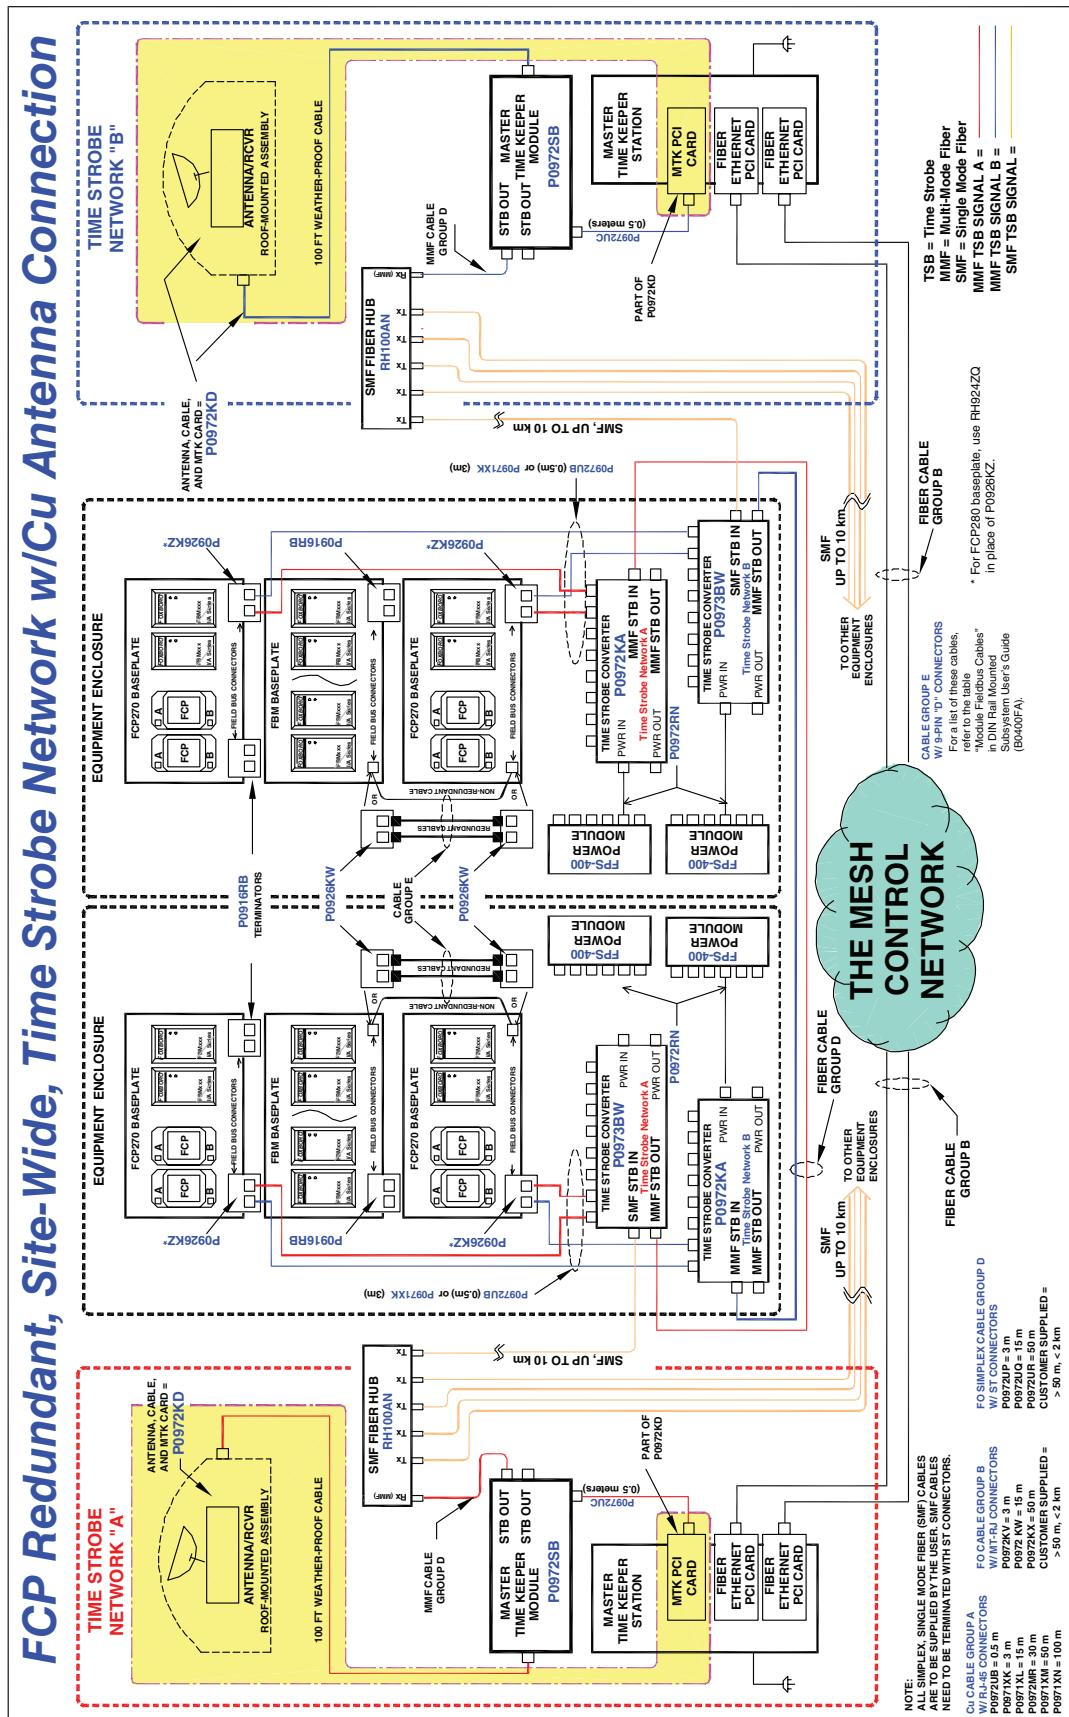

Figure A-6. Site-Wide Network-FCP270 with Wire Antenna, Redundant Copper Cabling
- ◆ Site-Wide Time Strobe Network - FCP270 with Wire Antenna Connection, Redundant Copper Cabling (Figure A-6).